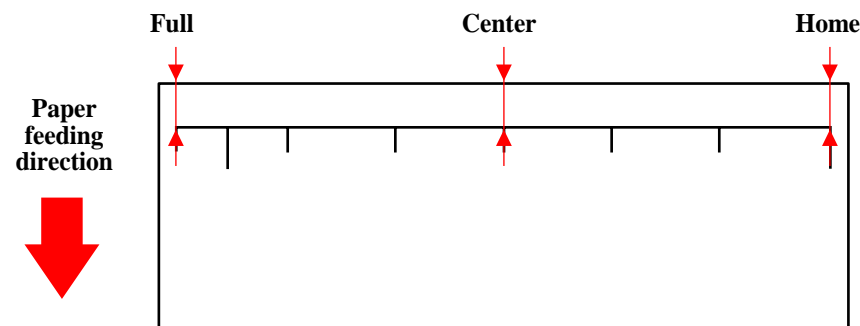

Figure 5-85. Adjustment Pattern
4. Measure the distances of Home, Center and Full as shown in Figure 5-85.